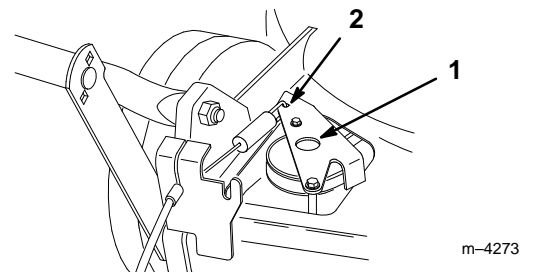

Figure 21
3. Push the drive bracket down until it contacts the mower, then hold it in place (Fig. 21).